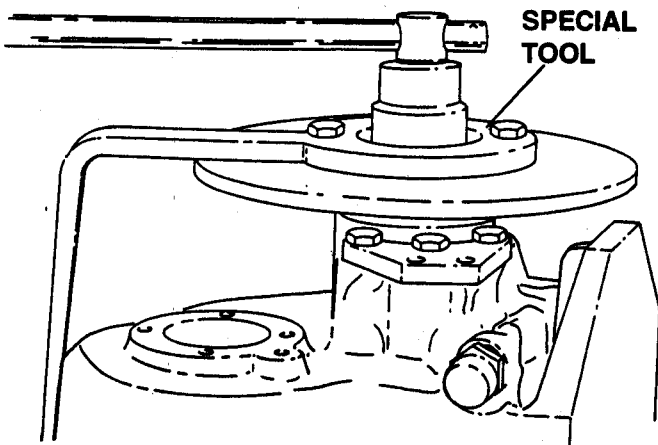

Figure 15.
19. Secure the brake disc using tool P/N 1001835 as shown in Figure 15. Unscrew output shaft nut. Support output shaft from beneath and lift off brake disc. Remove the output shaft assembly from the rear casing.